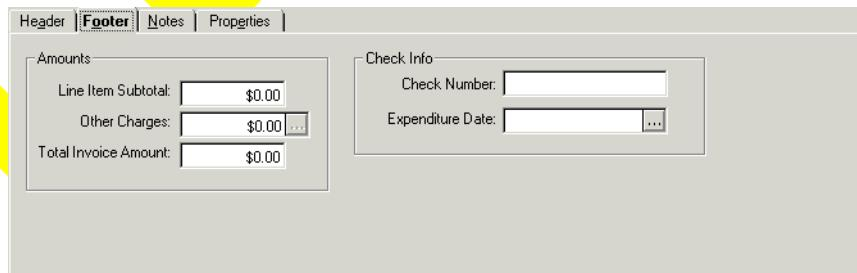

Figure 12-12. Footer tab
3. Add footer information to a new invoice. Click the **Footer** tab or press **Alt + O** on your keyboard (see Figure 12-12).